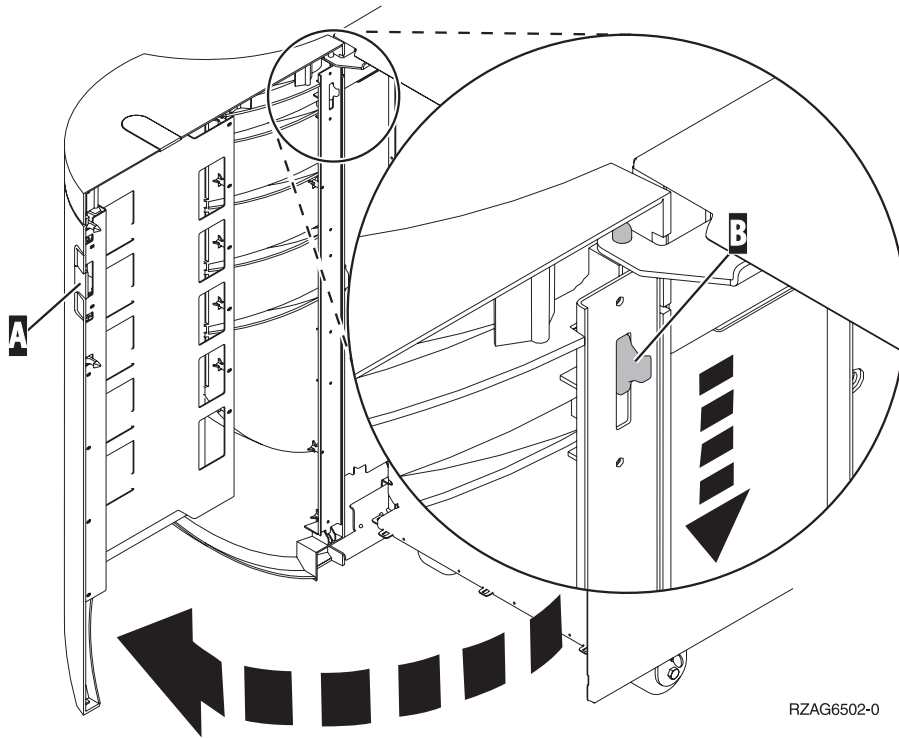

Figure 80. Rear cover - removal
- To open or remove the rear cover, refer to Figure 80 on page 481.